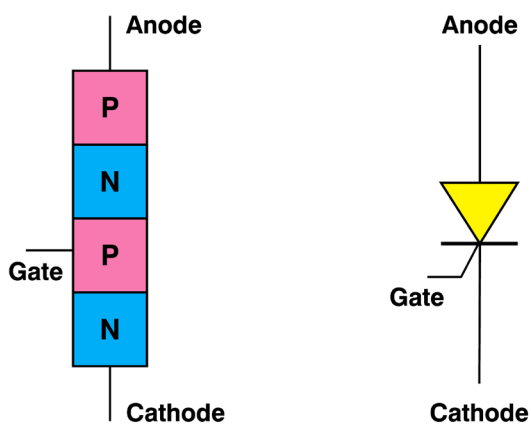

Fig. 6.6 SCR - Structure and symbols
an ordinary rectifier (PN junction) and a junction transistor (NPN) combined in one unit to form PNPN device as shown in Fig. 6.6.
Fig. 6.6 shows the symbol of SCR. Three terminals are taken- the first from the outer P-type material called Anode (A), second from the outer N-type material called Cathode (K) and the third from the internal P-layer called Gate (G). In normal operating conditions of SCR, anode is held at a high positive potential with respect to cathode and the gate at a small positive potential with respect to cathode.